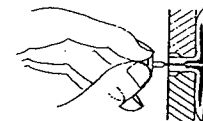

Figure 2
4. For thin walls (1/2" or less), insert red key into wall anchor. Push red key to 'pop' open anchor wings (see Figure 2). **IMPORTANT:** Do not hammer key!